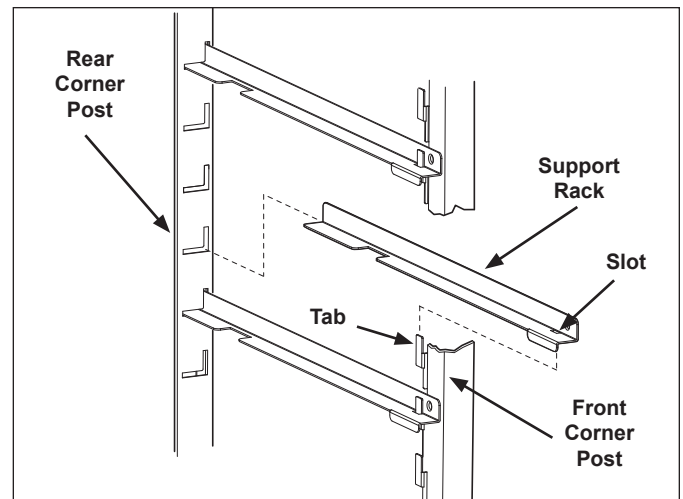

Figure 5. Adjusting Shelf Height
4. Lift up on the front portion of the desired Support Rack until it is free from the front Corner Post. Then, slide the Support Rack out of the rear Corner Post (Figure 5). **Repeat this on the opposite Support Bracket.**
5. Install the Support Rack at the new location by inserting the back end of the rack into the rear Corner Post and then sliding the front of the rack down onto the tab of the Front Corner Post (Figure 5).